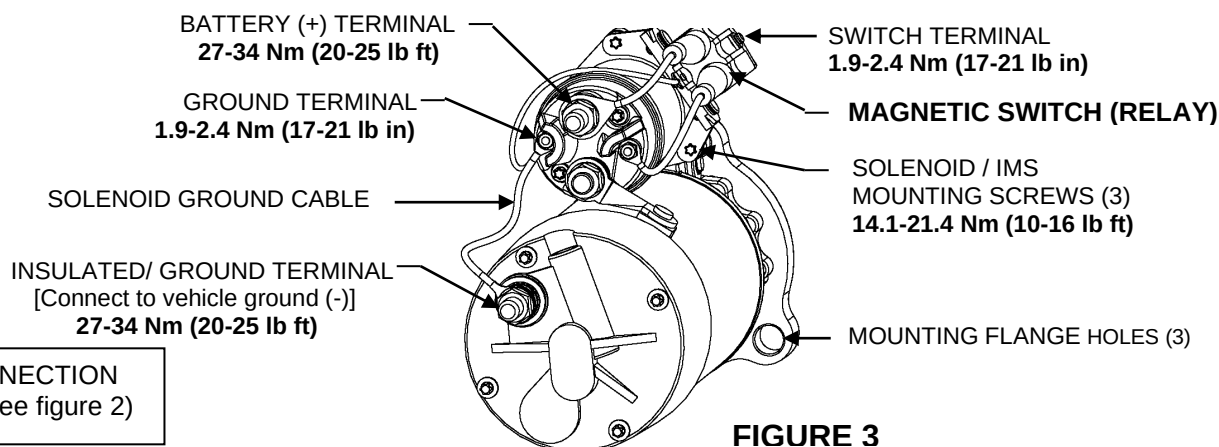

FIGURE 3
INTEGRATED MAGNETIC SWITCH (IMS) REPOSITIONING (Figure 3, page 2)
- ♦ Reinstall mounting screws and torque all fasteners according to values labeled in figure 3, page 2.